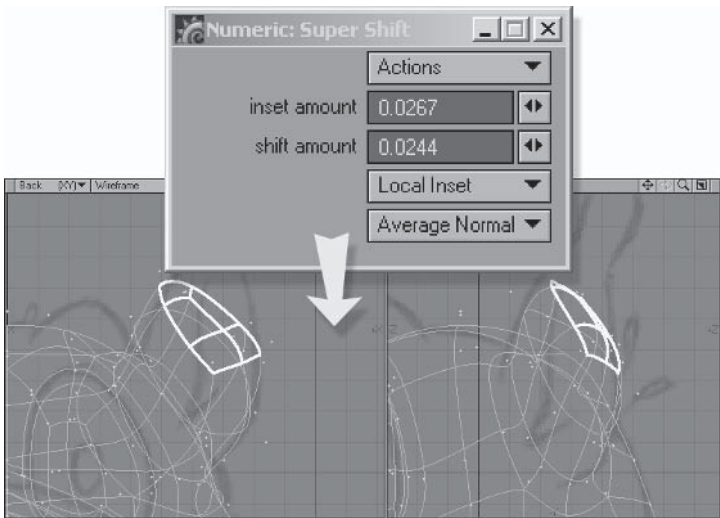

Figure 5.3-42. When adjusting the position of the shifted polygons, make sure you check that it looks okay in all the viewports.
7. **Super Shift** again, using the settings shown in Figure 5.3-42. **Move** and **Rotate** the polygons to fit the backdrops.